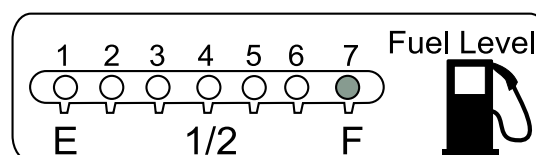

Figure 13. Fuel Gauge
3. Read the fuel gauge status LEDs (Figure 13) on the control panel and determine if the fuel level is low. Reference Table 13 for LED fuel gauge level indication.